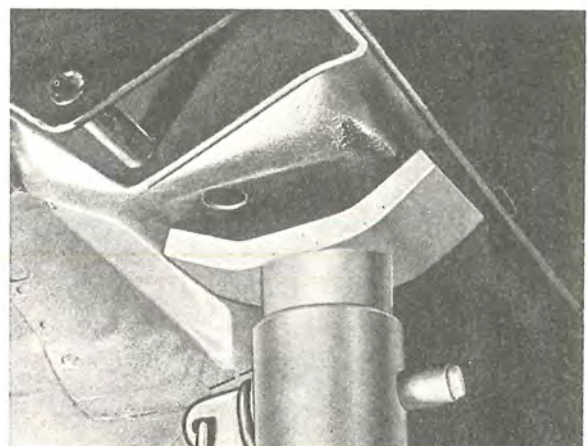

Fig. 4-75. Placing the block support
1. Place chocks in front of the front wheels. Slacken the rear wheel nuts. Raise the rear end of the vehicle and place blocks under in front of the rear jack attachments, see Fig. 4-75. Note that the blocks must not be placed at a point further than the dashed line indicated in the figure. Take off the rear wheels.